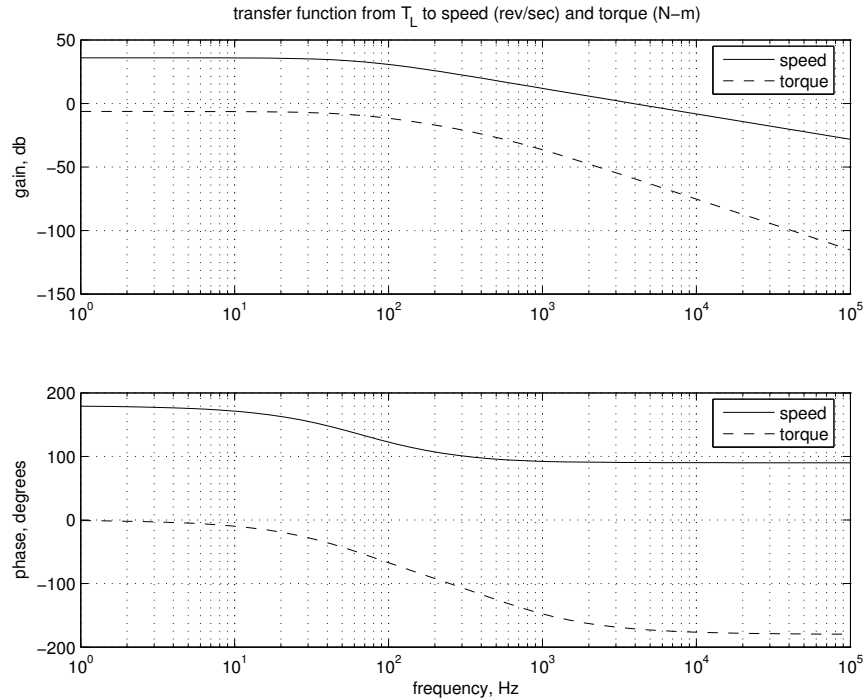
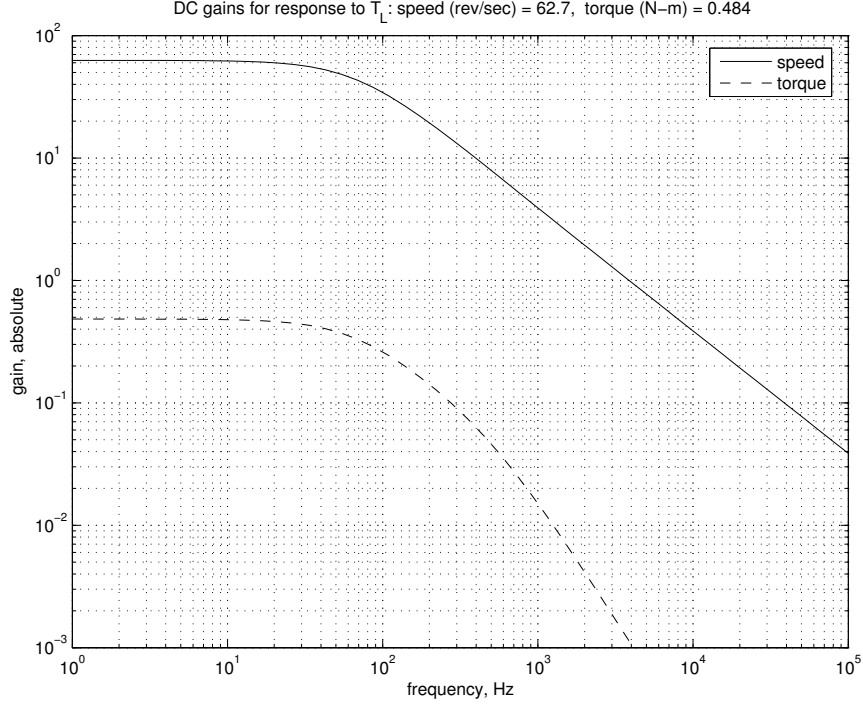

Figure 13: Frequency Response of DC Motor Response to Load Torque
Figure 14: Magnitude Response of DC Motor Response to Load Torque, absolute units
- (b) The plots are shown in Figures 13-14. Note from the phase plot in Figure 13 that the DC gain of the response of speed to load torque is negative because the phase at $\omega = 0$ is equal to -180° . (The DC gain stated at the top of Figure 14 is actually the absolute value of the DC gain.)